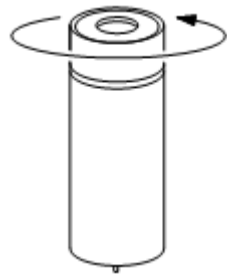
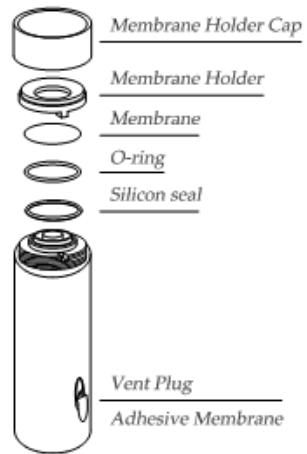

Figure 10-2: Removing cap
Figure 10-3: Removing parts
2. Holding the gas sensor upside down, unscrew the membrane holder cap (see Figure 10-2 & Figure 10-3). Remove and dispose the O-ring and membrane.